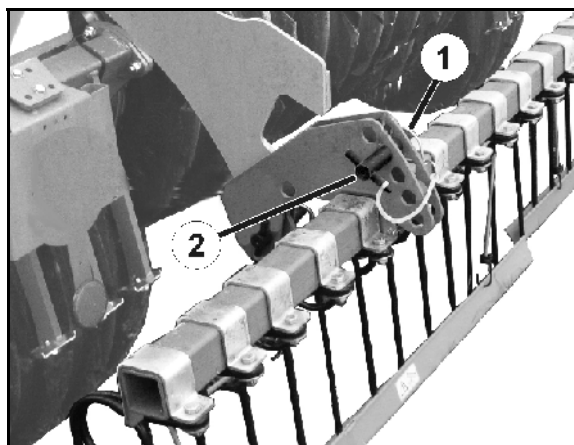

Fig. 47
2. Release the clip pin (Fig. 47/1).
3. Secure the adjusting pin (Fig. 47/2) in the desired position.